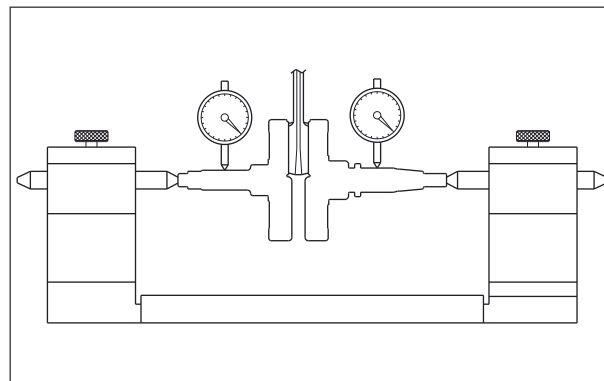

Fig. 3.170
- Support crankshaft assembly with 'V' blocks or anvil. Mount the dial indicator at positions shown to read the runout. Runout should be within the service limit. (Fig. 3.170)